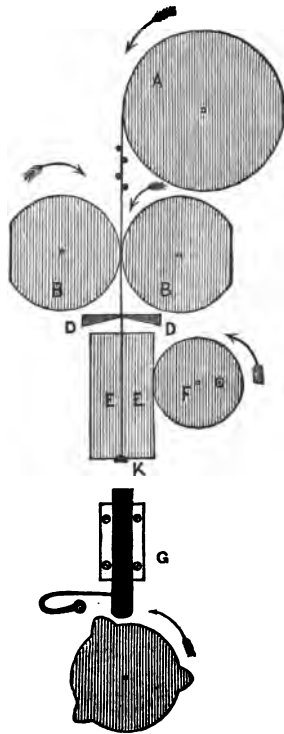

Fig. 54.—Machine for making Pins.
with the aid of a drawing or two ; but the details of pin-making machines vary according to the many patents by which, from time to time, the different contrivances for pointing, heading, cutting off, &c., have been protected since Wright's first invention was established in 1820. The simplest way will therefore be to give a plan of the different parts, omitting the framing, and not confining ourselves precisely to any single patented machine. The several processes will be—(1) Straightening the wire ; (2) drawing forward enough for one pin ; (3) holding it fast that (4) it may be headed ; and it has then (5) to be cut off, (6) pointed, and then lastly delivered into boxes or baskets as a complete pin, requiring only to be whitened, finished, and packed for sale. A single machine now accomplishes the whole of these operations except the two last, viz., the whitening and finishing. The insertion into papers in rows is now done by machinery also. The brass wire is wound upon a slightly conical reel (A, fig. 54), which revolves upon an upright axis or pin fixed at the back of the machine. This may be called the "feed," which is rapidly drawn into the insatiate maw of the machine, to be metamorphosed into the article in question, which article we take as the representative of inappreciable value, simply because the supply is so prodigious. To obtain such valueless article has, nevertheless, cost a mint of money, and much wear and tear of mind and brain.